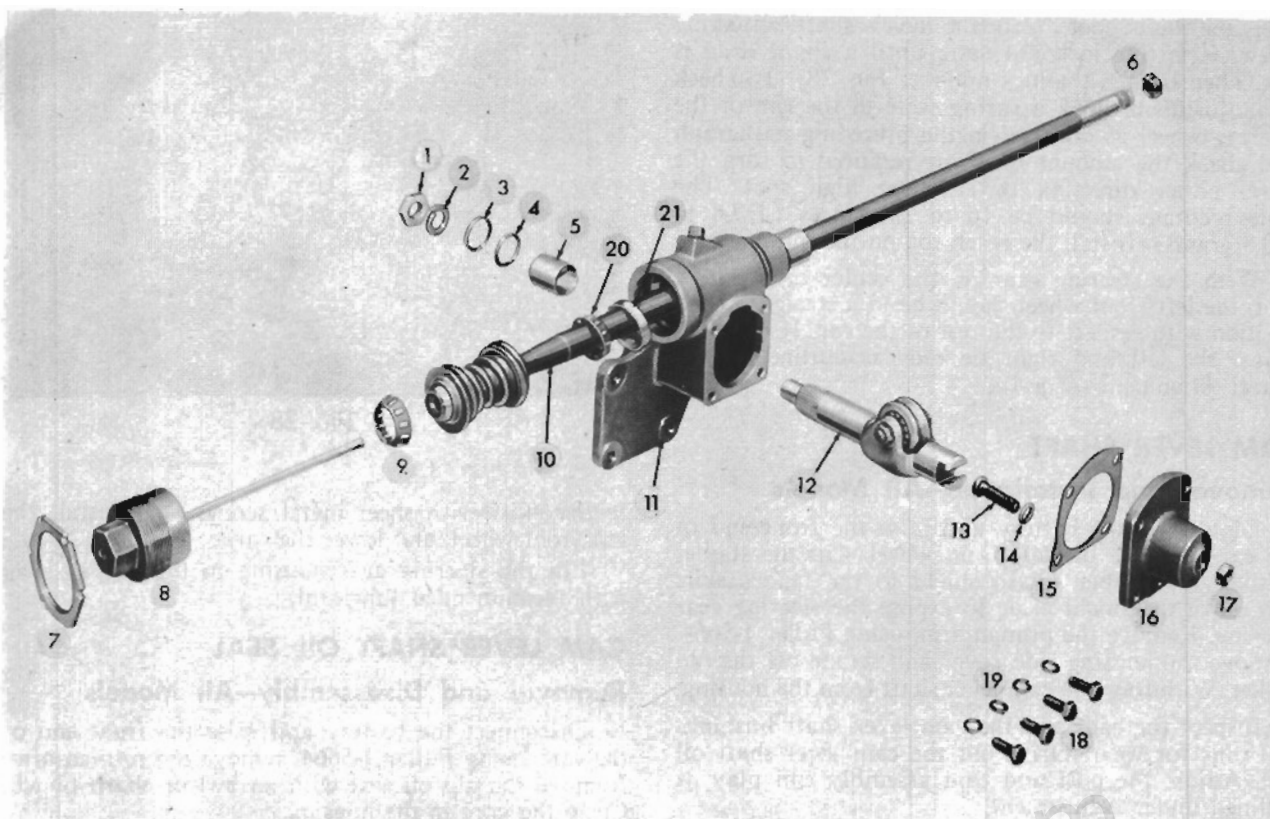

FIG. 30
Remove the pitman arm retaining nut (1, Fig. 30) and lock washer (2) from the cross shaft (12). Punch locating marks on the pitman arm and the end of the cross shaft and remove the pitman arm.